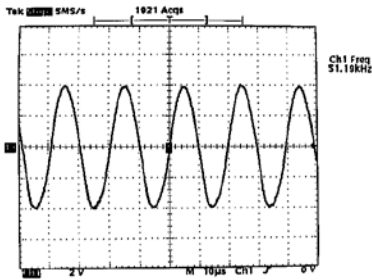

Figure 1.
3. Verify channel 1 and 2 oscillator sine wave (shown in Figure 1) forms across LA1 and LA2 (surge protectors). The sine wave should be 8 to 10 Vp-p and between 20 and 100 kHz.